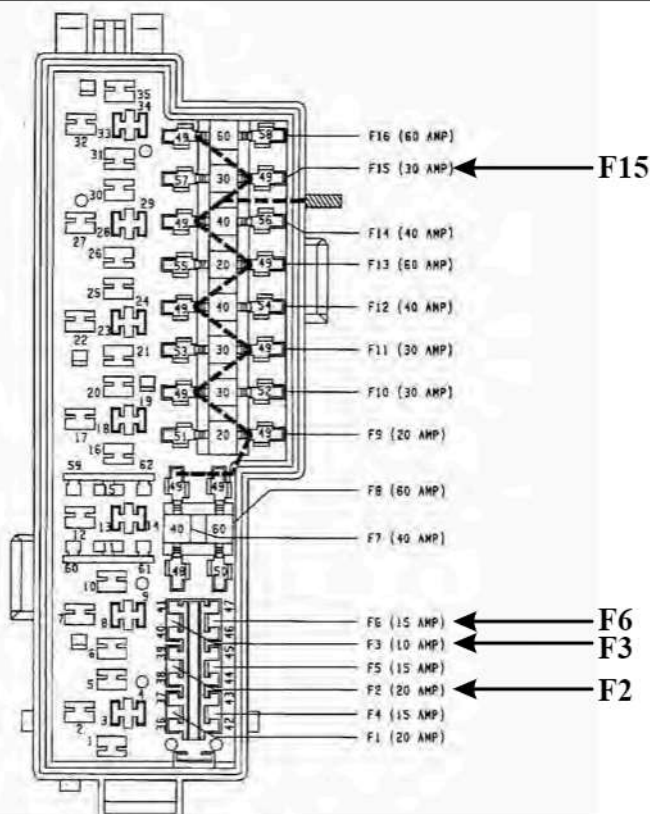

Figure 10
- (c) With the engine off and the ignition switch in the ON position, check for battery voltage in the transmission control module connector, on pins C8, C9 and D8, as shown in Figure 9. If battery voltage is lost at **any** one of these terminals, check for blown fuses in the power distribution center, located on the passenger side fender shield by the battery. Check fuses F2, F3, F6, F15, and replace as necessary, as shown in Figure 10. If battery voltage is seen at all three locations, continue on to the next step. **Note: For 1996 and later models, see Page 120.**